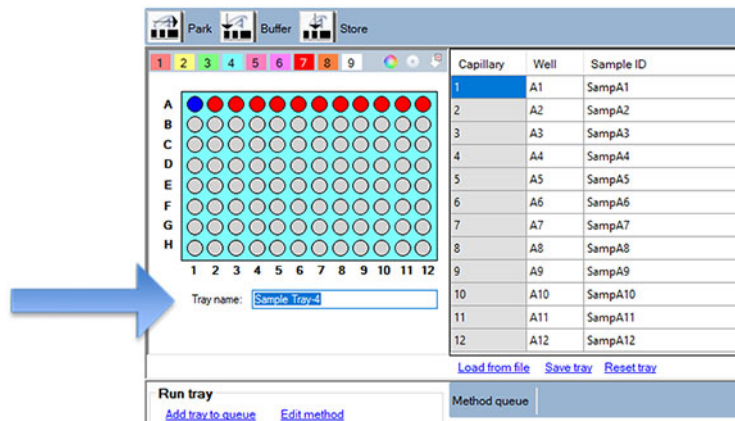

Figure 98 Highlighted of tray name
- 2 In the field **Tray name** of the **Operation** tab, highlight the tray name with the mouse cursor (**Figure 98**).